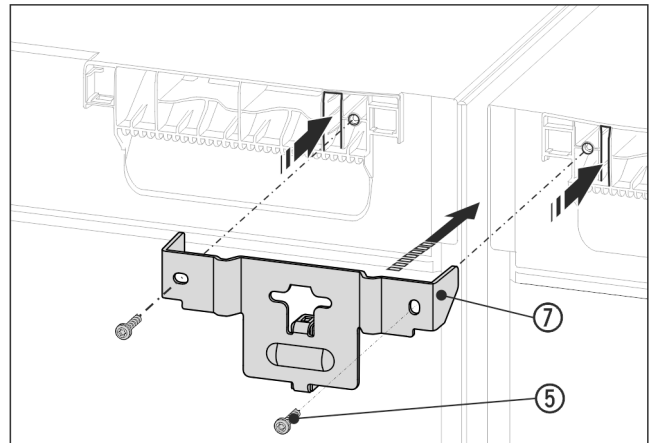

Fig. 17 Example illustration
- ▶ Slide the bracket Fig. 17 (7) onto the appliance ceiling with the lugs and with the spacer between the appliances. Screw in firmly with 2 screws Fig. 17 (5).